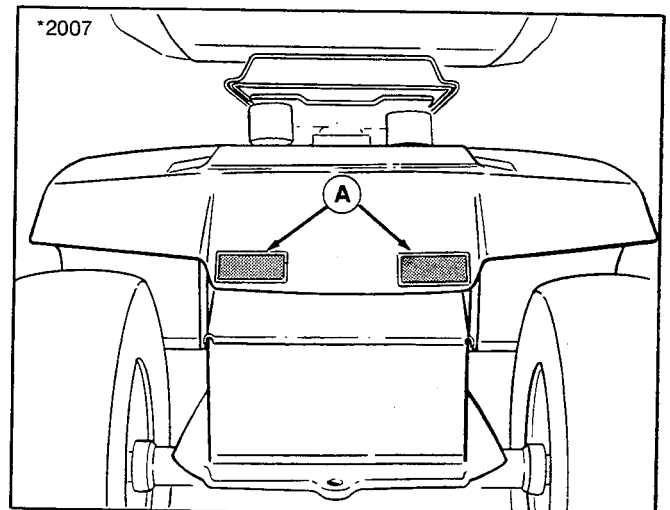

Figure 20. Install Reflectors
1. Position the two red reflectors (A, figure 20) onto rear of tractor as shown.